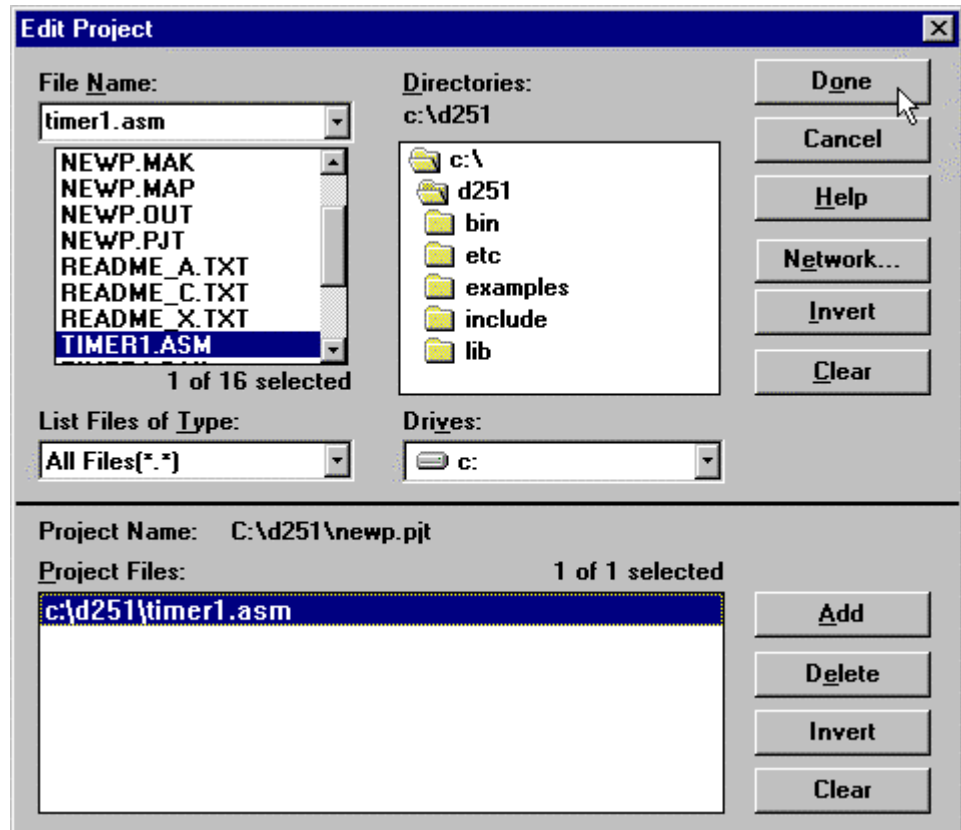

Figure 8 Adding a File
1. Open the EDE **P**roject menu and select the **E**dit... menu item. The dialog shown in Figure 8 appears.
2. Select the file `timer1.asm` and choose **A**dd (or double click the file). Press **D**one to close the dialog from Figure 8.